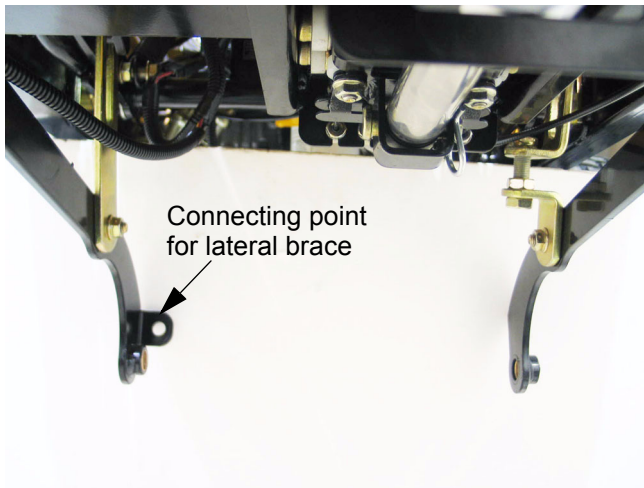

Figure 14.5
- 14.5. The bushings on both lift arms are off-set to the left. The right side arm has a tab for the connection of a lateral brace that was introduced at mid-season, 2005. The lateral brace was disused in November 2005. See Figure 14.5.